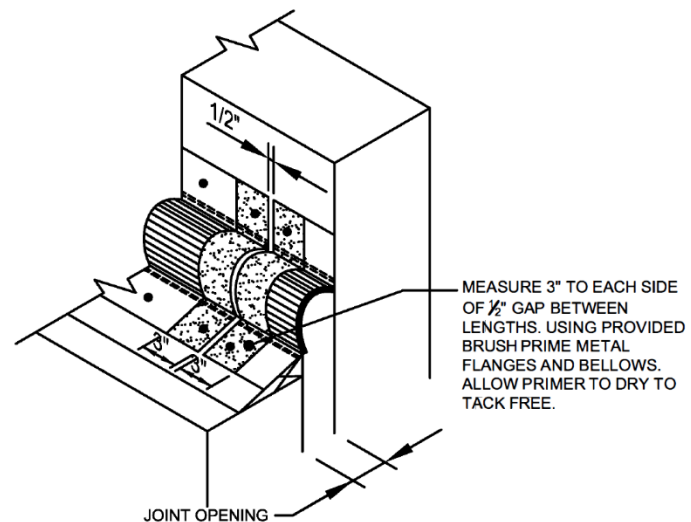

Figure 1
1. Measure 3" to each side of 1/2" gap between lengths. Using provided brush, prime metal flanges and bellows. Allow primer to dry to tack free. Typical at each splice location. **See Figure 1**